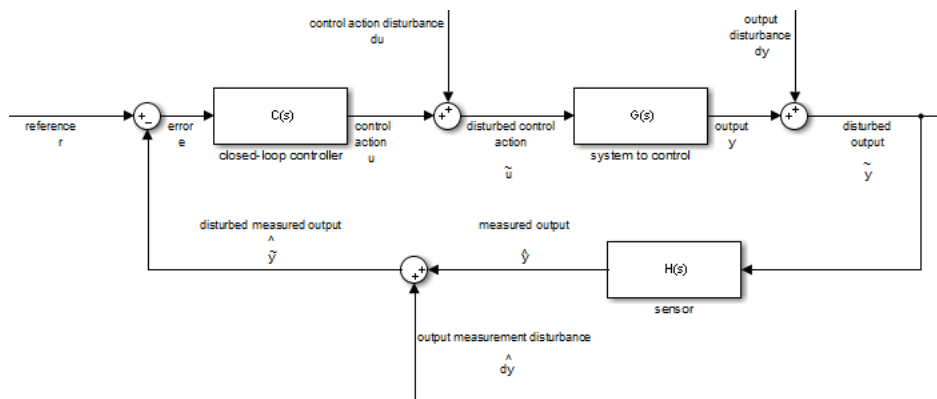
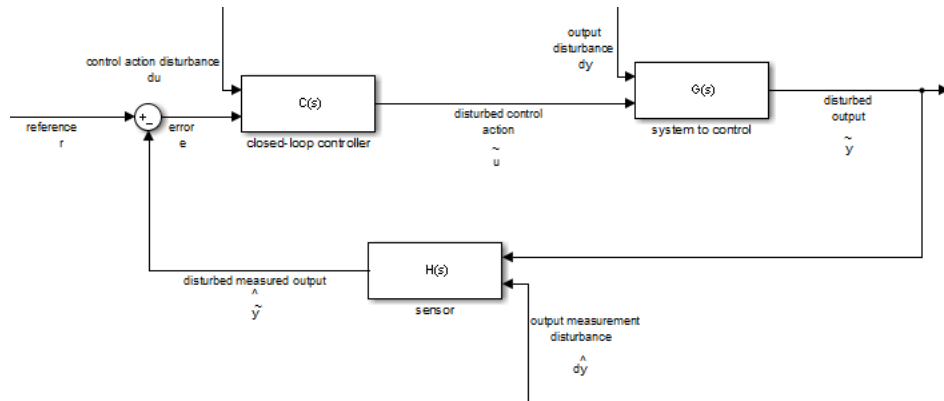

Figure 9.13: Closed-loop control with disturbances and sensor dynamics.
Figure 9.14: The same as Figure 9.13, but with MIMO systems.
Actually, no control system is that simple. Figure 9.13 shows a more realistic situation, including the following additions:
**Remark 9.8.** Disturbances in Figure 9.13 follow what is called an additive model, since the disturbance is added to the signal it disturbs. Other models use multiplicative disturbances, that are multiplied rather than summed. Here we will stick to additive disturbances, which result in linear models.  $\square$
**Remark 9.9.** We saw in Chapter 3 that MIMO systems may have some inputs in the general sense that are disturbances and others that are manipulated variables. Figure 9.14 represents disturbances using MISO systems. The block diagram in Figure 9.13 reflects the same situation using only SISO systems. The price to pay for using SISO systems is less freedom in establishing mathematical relations between disturbances and outputs.  $\square$
The output of the block diagram in Figure 9.13 is